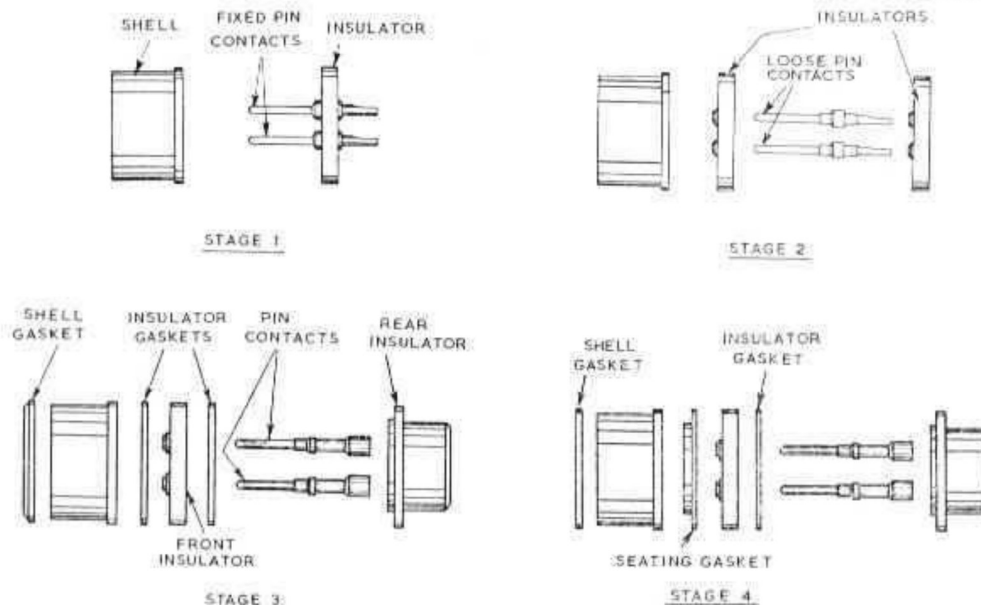

Fig. 5. Fixed unit, stages of development
11. In the stage 4 version (fig. 5), the front and rear insulators were alkyd, the shell and rear insulator gaskets silicone rubber and a seating gasket of